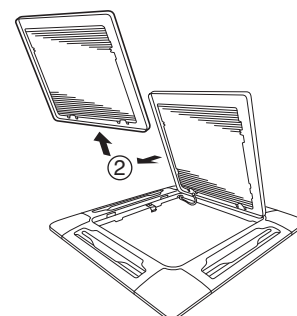

Fig. 6-15
- b) With the air-intake grille opened, remove the grille hinge from the ceiling panel by sliding it in the direction shown by the arrow ②. (Fig. 6-15)